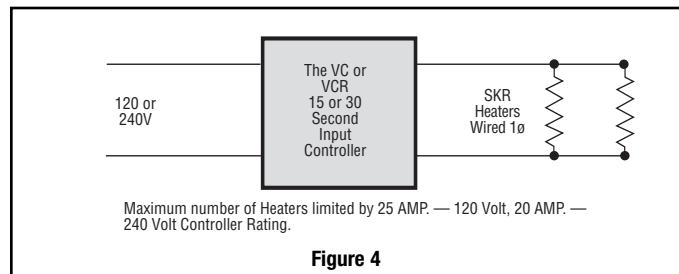

Figure 4
- Although most heaters operate at full capacity, it is possible to reduce heating capacity with an Input Controller (Chromalox Type VC or VCR — check factory) which can be manually set to turn on heaters from 4% to 100% of a 15 or 30 second operating cycle, providing, in effect, infinite control of heater output. Refer to Figures 4 and 5 as may be appropriate to your installation.